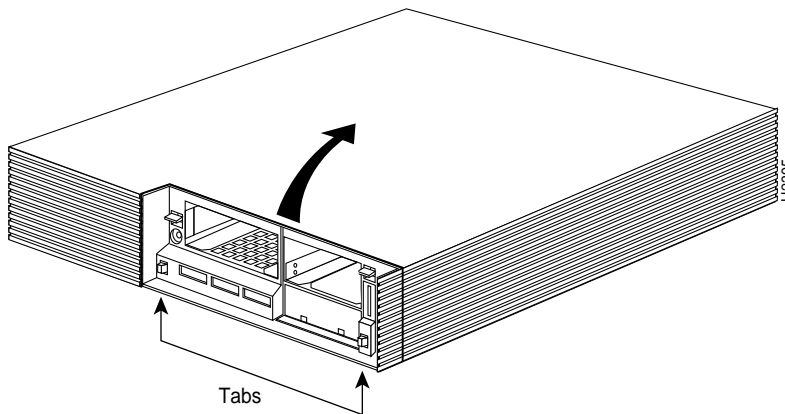

Figure 4-2 Removing the Cover
**Step 2** Pull the cover up and rotate toward the back of the chassis. (See Figure 4-2.)